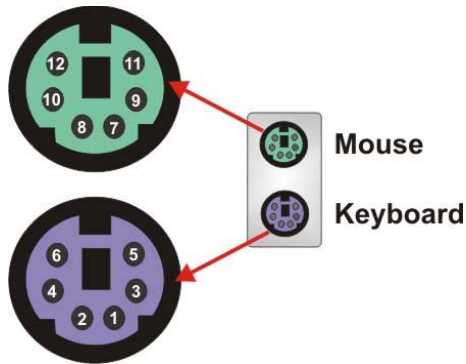

Figure 3-38: PS/2 Keyboard and Mouse Connectors
- CN Pinouts:** See **Table 3-35** and **Figure 3-38**